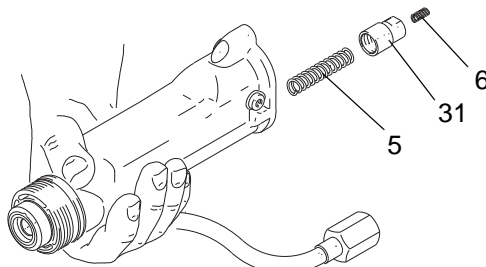
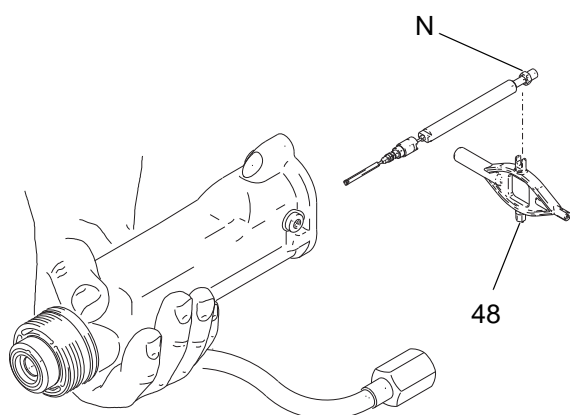

FIG. 30 Spring Cap and Springs
FIG. 31 Fluid Needle Removal
3. Remove the barrel (1), page 42.
4. Remove the spring cap (31) and the spring (5) from the barrel. See FIGURE 30.
5. Be sure the seat housing (4) is removed. Place the 2 mm ball end wrench (45) in the back of the fluid needle assembly. Push the tool in and turn it counterclockwise about 12 full turns to unthread the needle.
6. Using the multi-tool (48), pull back on the packing nut (N) to remove the fluid needle assembly. See FIGURE 31.